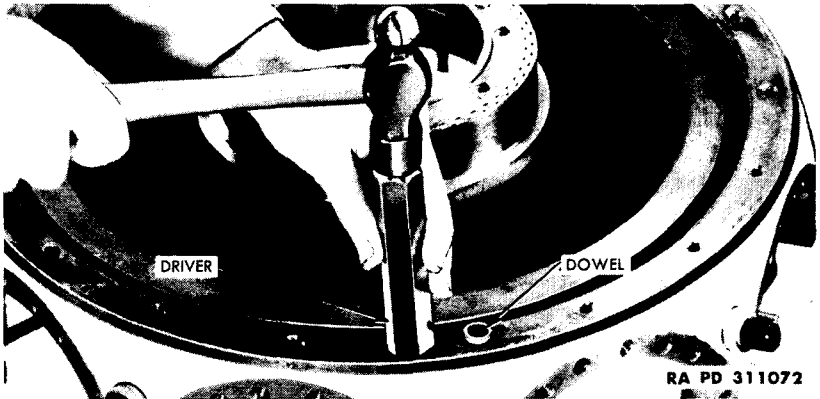

Figure 58 — Installing Crankcase Dowels, Using Driver 5A2156
(2) **ASSEMBLE CRANKCASE REAR SECTION.** Assemble eight hollow dowels and eight rubber seal rings in crankcase main rear section by driving dowels into position with driving tool (5A2156) (fig. 58) and placing seal rings on protruding portion of dowel.